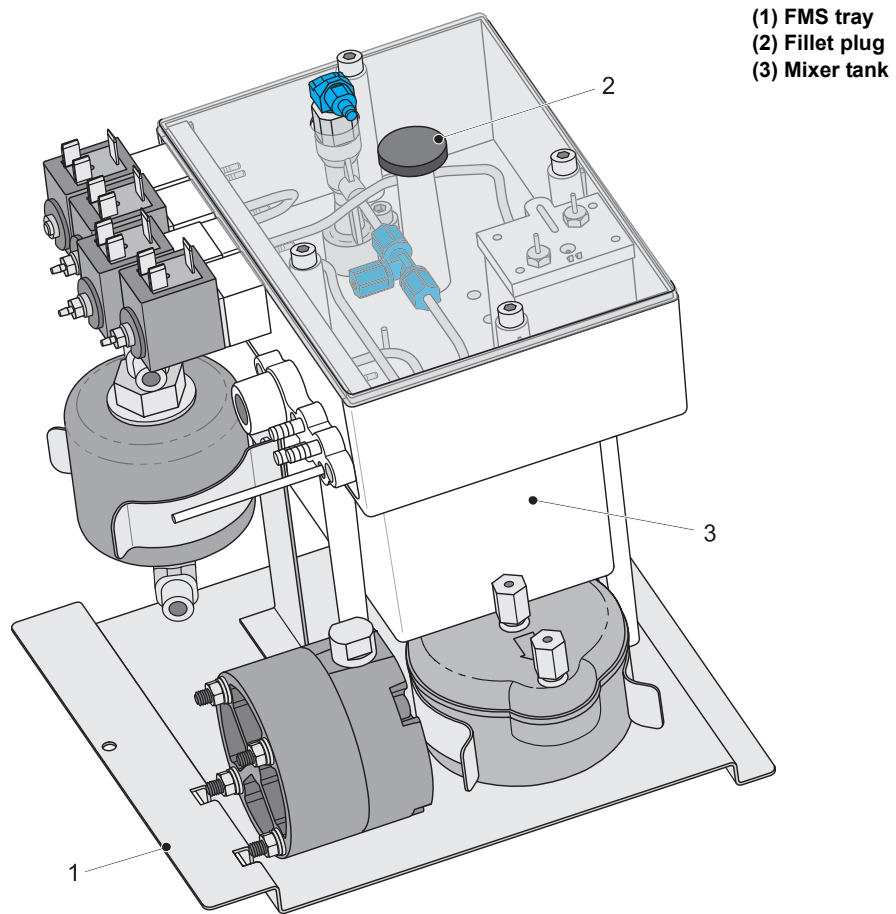

Figure 2-2. Ink Mixer Tank and Filler Plug Location
- 10 Remove the filler plug (Item 2 in Figure 2-2).
- 11 Prime the mixer bowl (3) with approximately 250 ml of the correct ink using a syringe and a length of 40 mm x 6 mm tube. The *Mixer Low* icon will cease to be displayed when approximately 250 ml is added to the mixer bowl.